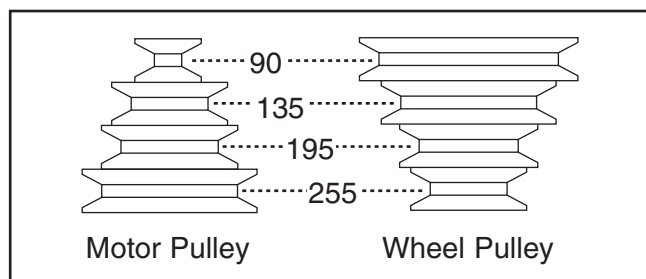

Figure 36. Illustration of V-belt placement for FPM selection.
3. Slacken V-belt and position on pulley for desired FPM (see **Figure 36**).